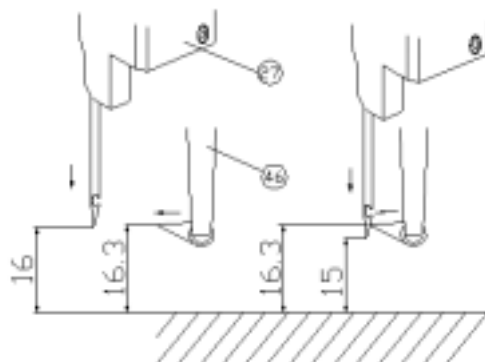

FIG. 23
Bring the needle bar to the beginning of the first cycle. Use the 15-mm-long side of the gauge (29) and set the needle bar at 1 mm from its U.D.C.; the distance between throat plate and the tip of the needle should be 15 mm. FIG. 23.